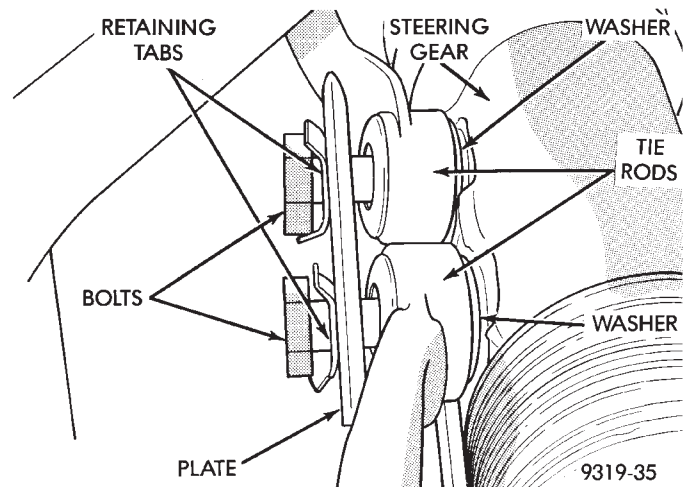

Fig. 18 Tie Rod Attachment To Steering Gear
(7) Align center take off on steering gear with the tie rod assemblies. Install tie rod attaching bolts and washers into steering gear assembly. **Be sure washers are installed between tie rods and steering gear (Fig. 18).** Tighten the tie rod to steering gear bolts to a torque of 90 N·m (66 ft. lbs.).